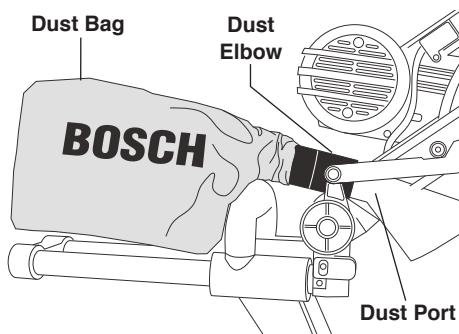

Figure 4. Dust Elbow and Dust Bag
- With the miter arm locked in the down position, push the dust elbow onto the dust port. Push the dust bag onto the elbow and rotate both to desired position. (Figure 4).